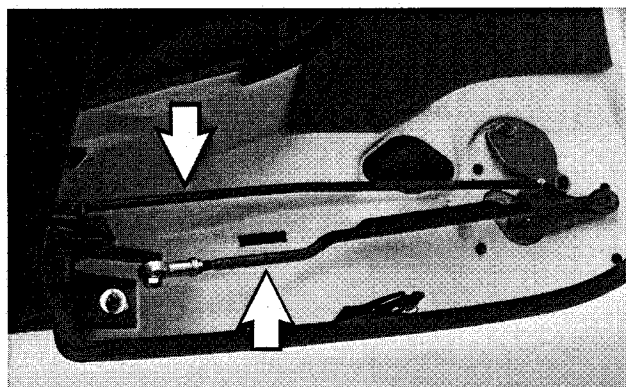

Fig. 11. Convertible top linkage rods (arrows) in compartment behind left rear seat.
5. Disconnect electric motor linkage rods in convertible top storage compartment behind left rear seat. See Fig. 11.
5. Working in convertible top storage compartment behind driver's seat, remove convertible top linkage rods from top of motor. Refer to Fig. 11.